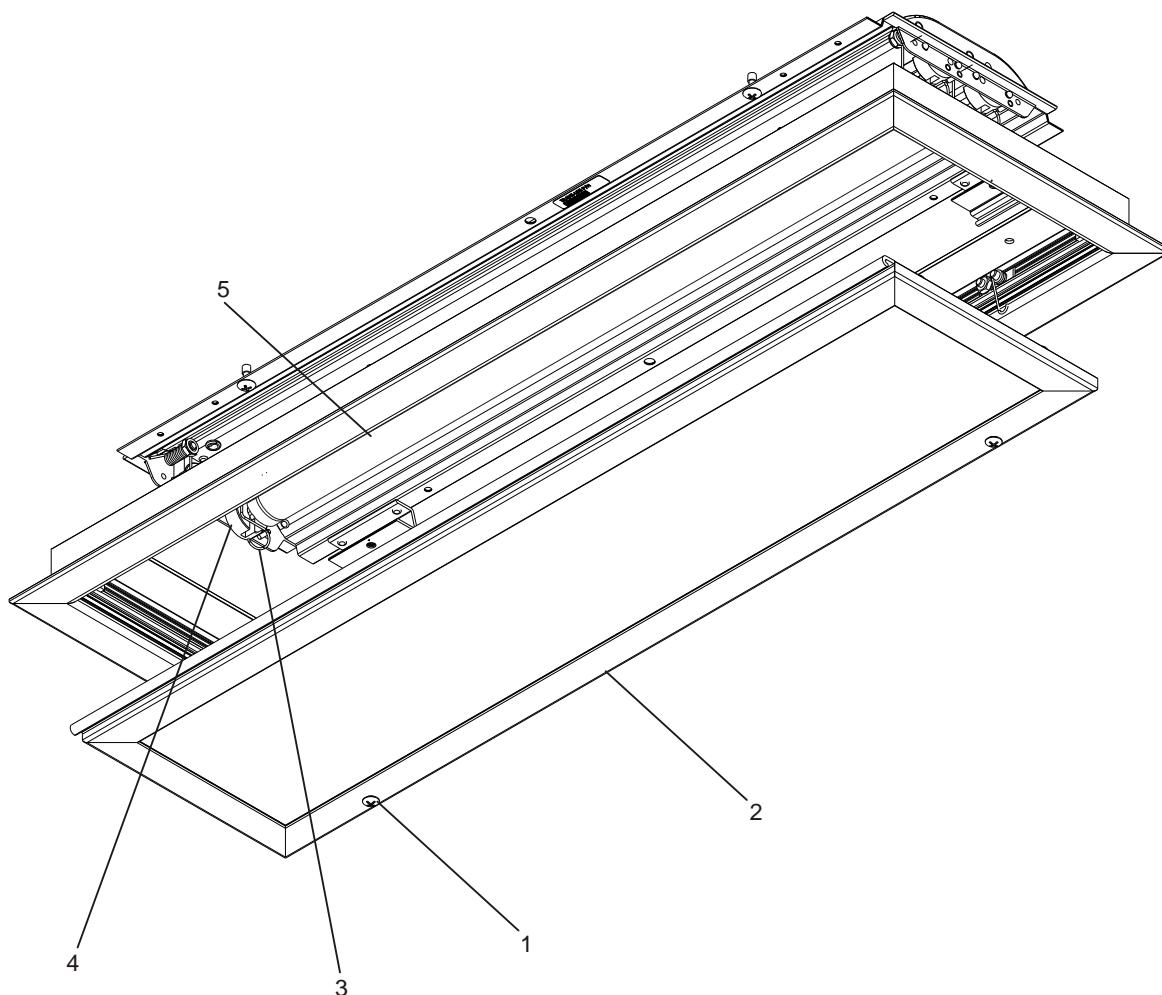

Figure 7-3: Replace Cab Ceiling LED Tube Lamp
2. Unfasten two captive 8-32 Torx head screws (1, Figure 7-3) from the lens door assembly (2).
3. Remove lamp retainer spring (3) from the socket (4) at each end of the fixture.
4. Rotate lamp tube (5) one-quarter turn and remove.
5. Install replacement lamp tube (5) and rotate one-quarter turn in the opposite direction.
6. Attach two lamp retainer springs (3).
7. Close lens door assembly (2) and fasten with two captive 8-32 Torx head screws (1).